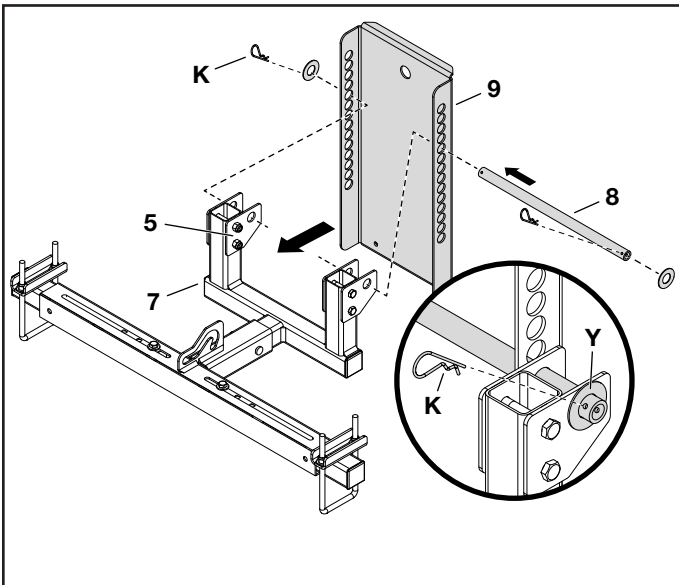

FIGURE 5
STEP 5: (SEE FIGURE 5)
- Insert the pivot shaft (8) through the two sets of pivot brackets (5) of the blade mount assembly (7). For now, use the 5th hole from the top in each side of the bulkhead (9).
- Secure each end of the pivot shaft (8) using a washer (Y) and a hair cotter pin (K).